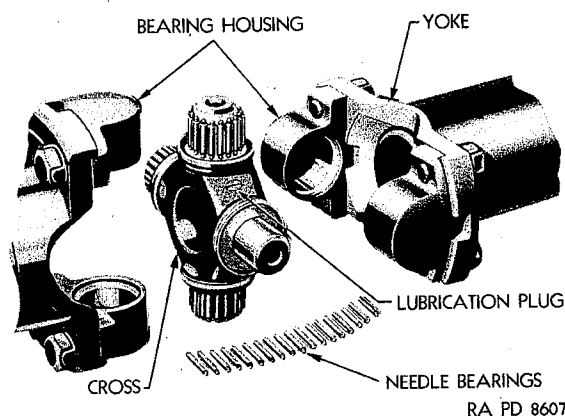

Figure 53—Universal Joint, Disassembled
a. The propeller shaft on each engine transmits power from its Hydra-Matic transmission to the Transfer Unit which is located in the forward end of the fighting compartment. Each propeller shaft is fitted with a universal joint (Fig. 53), at each end to permit operating at an angle with the Hydra-Matic transmission and the Transfer Unit. A housing on the floor of the fighting compartment encloses each propeller shaft.